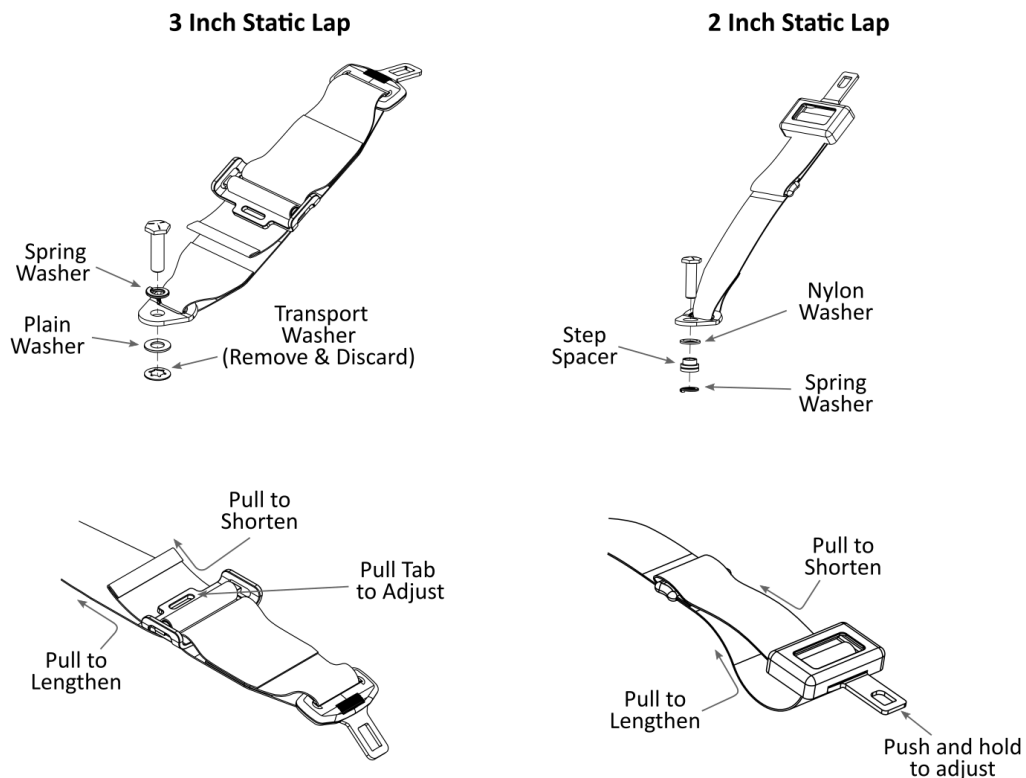

Figure 3
1. Identify the static lap belt type and assemble the fittings using the Figure 3 below.
To adjust the length of 2-inch static lap belts, push and hold the tongue into its cover while pulling the appropriate length of webbing as depicted in Figure 3.